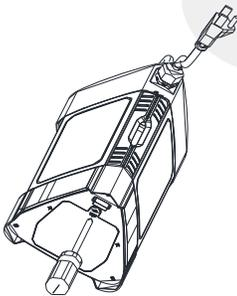

figure 1
**Step 1:** Open the battery cover with a screwdriver and remove the silicone sleeve, See Figure 1.